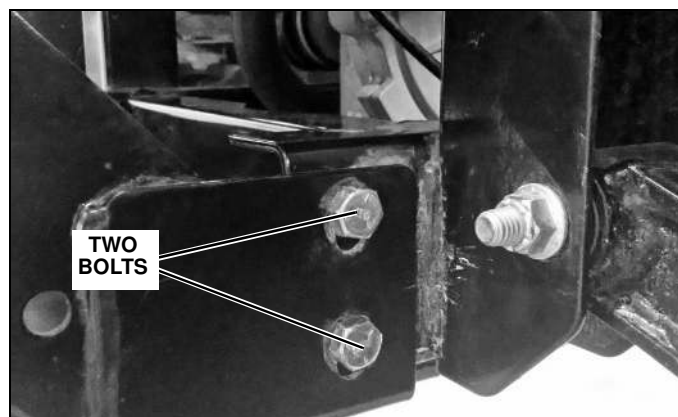

Figure 1
1. The lower driver side corner of the brush guard is secured to the UTV frame with two fasteners. Remove the two from the inside, but leave the bolts in place. (See Figure 1.)